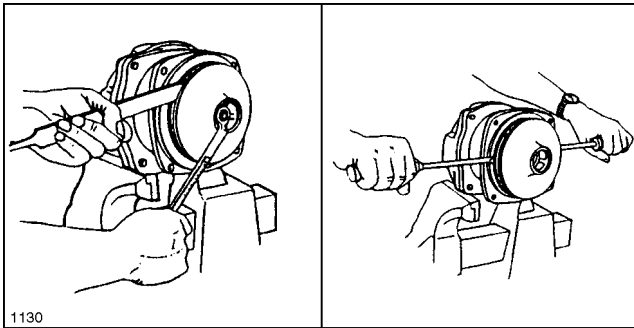

FIG. 9
2. To remove the impeller nut, clamp the flange in a vise and insert a large screwdriver or file (at least 10" long) into impeller vanes to prevent impeller from turning when loosening nut. Use a 5/8" box end or socket wrench to remove the impeller nut by turning it counterclockwise. See FIG. 9.
3. Once nut is removed, place a screwdriver on each side (FIG. 9) behind the impeller and pry away from the mounting flange. Remove woodruff key from the shaft. Remove O-ring from the mounting flange.